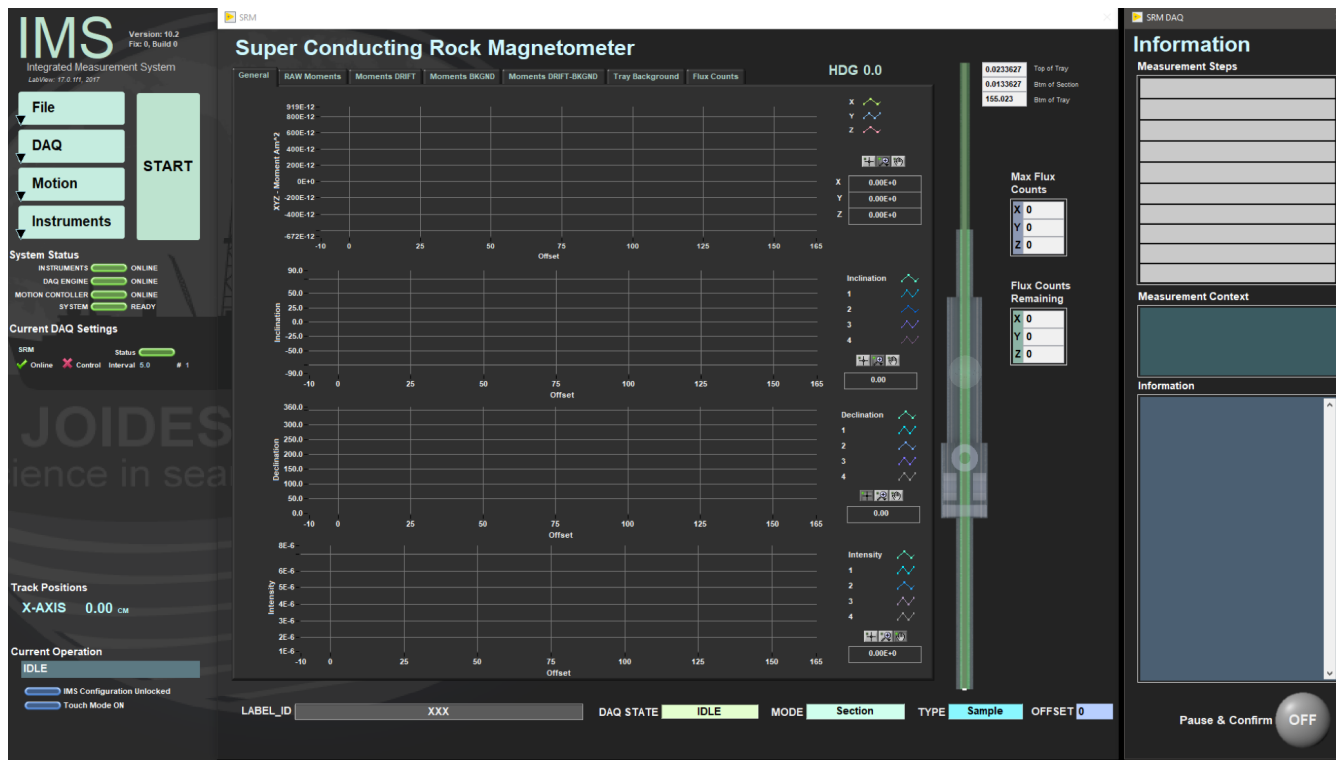

Figure 2. IMS-SRM main screen.
Once the program launches, the user will see the main IMS-SRM window (*Figure 2*). The leftmost panel contains the controls for changing the setup and for starting the SRM measurements. The center panel allows the user to view the data as it is collected and monitor the measurement process. The right panel display indicates which measurement sequence is selected and which step is being executed, as well as other pertinent information.
4. Once user has created the finalized sequence, select **Accept** and the user will be prompted to name the sequence and then returned to the main screen (Figure 2).
1. To start a measurement select the **START** button on the left hand side of the main SRM-IMS screen (Figure 2). The Sample Information window will open (Figure 10).
- Click **Measure** to begin measurement. A window similar to *Figure 2* will open and display the measured data in real time.